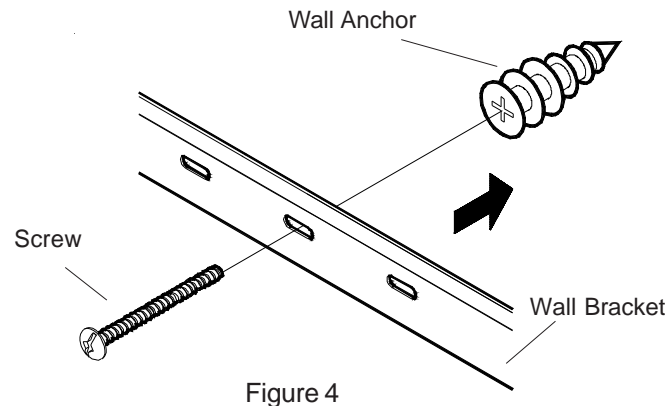

Figure 4
NOTE: Wall anchors must be installed in the appropriate wall locations to fasten the wall bracket through the remaining holes (Figure 4). For example, if you plan to secure the bracket to studs through holes A&F, install anchors centered on holes B, C, D, and E.
9. Insert the wall anchor screws through the wall bracket and thread into the wall anchors. Tighten the screw. (FIGURE 4)